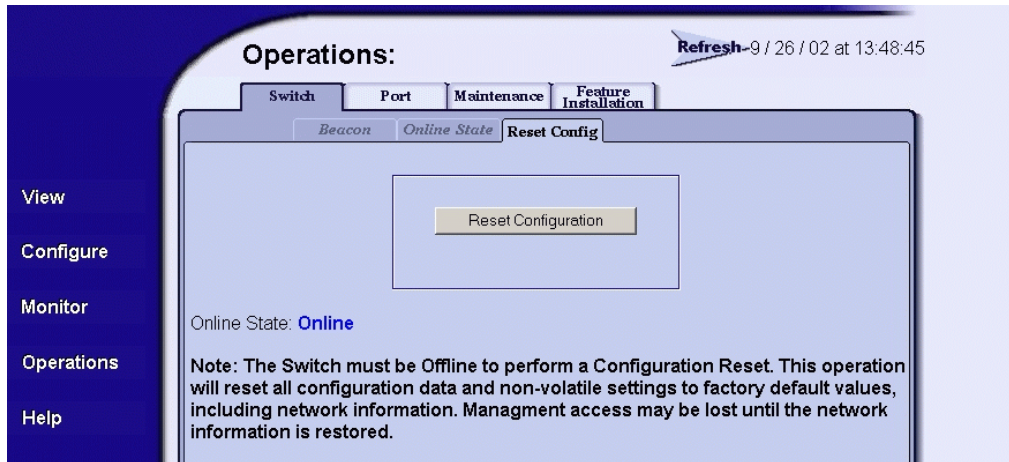

Figure 4-70 Operations Panel (Switch Page with Reset Config Tab)
4. Click the *Reset Config* tab. The *Switch* page displays with the *Reset Config* tab selected (Figure 4-70).